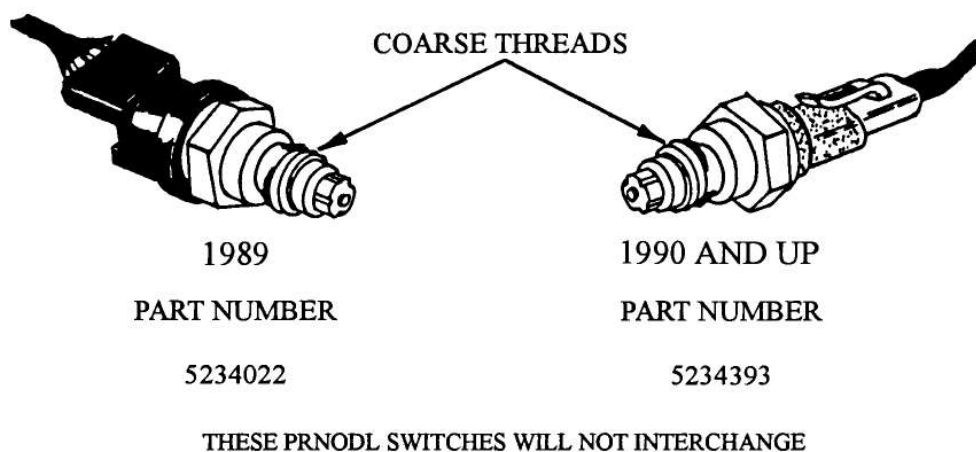

Figure 21
- (1) **PRNODL SWITCH AND CONNECTOR** - The PRNODL Switch and its wiring harness connector have changed for 1990, and can be identified visually (See Figure 21). These PRNODL Switches **WILL NOT** interchange with one another.
NOTE: Each of the new for 1990 switches may look similar at first glance, but the PRNODL switch features a "Coarse" thread, while the Neutral Safety switch is black and features "Fine" threads. (See Figures 21 and 22).